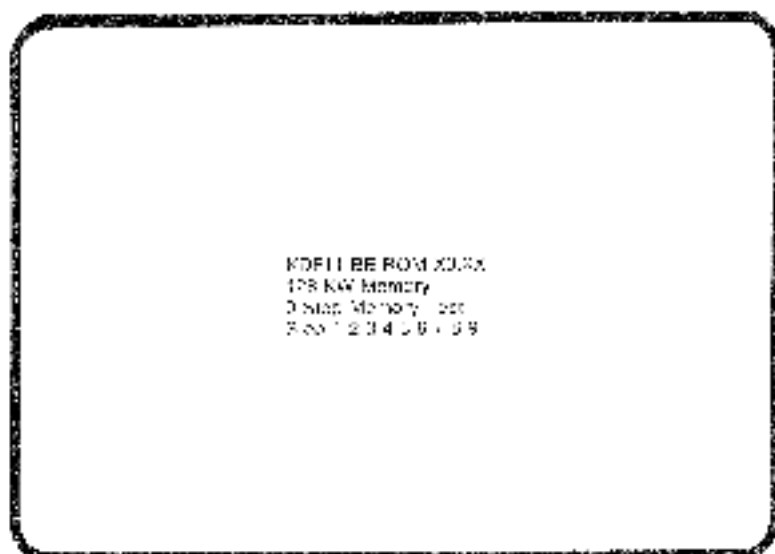

Figure 1-5 KDF11-BE or BE Startup Message
- The KDP11-BF CPU displays a "9 Step Memory Test" message (Figure 1-5).